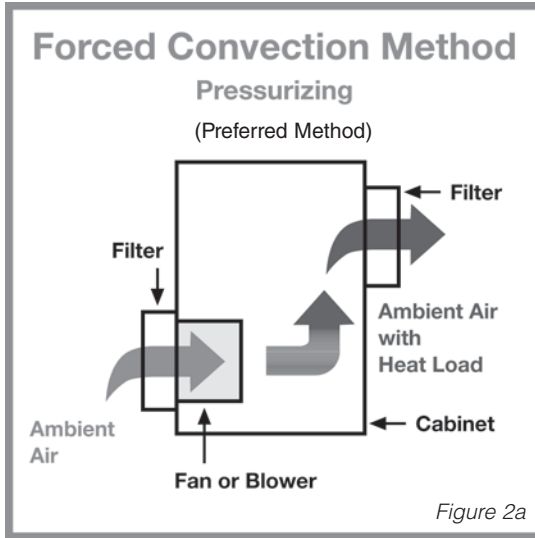

Figure 2a
- 2. Forced Convection Air Cooling** — If the installation will be in a clean, non-hazardous environment with an acceptable ambient (outside the enclosure) temperature range, a simple forced-air cooling system utilizing outside air is usually adequate. Combined with an air filter, such devices generally meet the heat removal needs of typical electronic equipment and many electrical applications (Fig. 2a & 2b, pg. L16). Examples of forced convection air cooling are Filterfans™ and Box Fans.